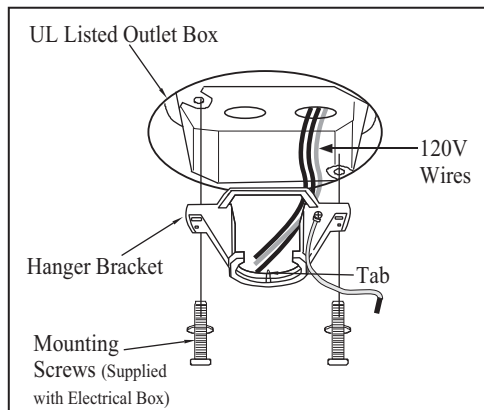

Figure 14
1. Pass the 120-volt supply wires through the center hole in the hanger bracket as shown in Figure 14.
2. Install the hanger bracket on the outlet box with the screws and washers provided with your outlet box. (Figure 14)